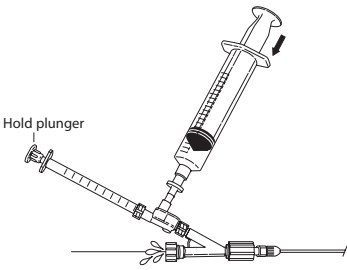

Fig.6
8. Purge any remaining air bubbles by holding the plunger on the 1 mL syringe stationary, and slowly depressing the 20 mL syringe to force any remaining air bubbles out. Once all air has been removed from the system, tighten the Tuohy-Borst valve around the tip occluder. **(Fig. 6)**